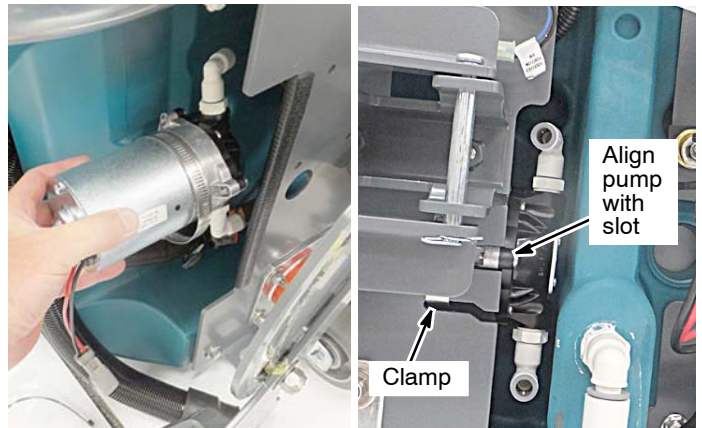

Fig. 17
- Insert the pump assembly from the rear of machine and mount it to the machine frame tab with hose clamp as shown. Rotate the elbow fittings as shown (Figure 17).